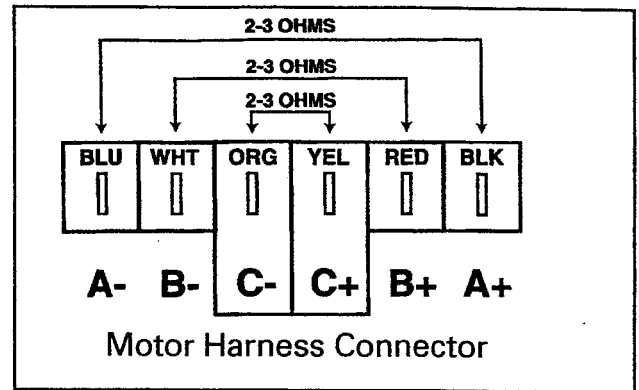

Figure 2-61
Refer to section titled Motor Control for board identification of A, B and C terminal/harness identification (*Figure 2-61*). Also, see the wiring schematic for harness identification.
2. Remove each pair of phase wires from the motor control and perform an ohms check of each wire leading to the motor. Each wire pair should show 2-3 ohms resistance (*Figure 2-61*).